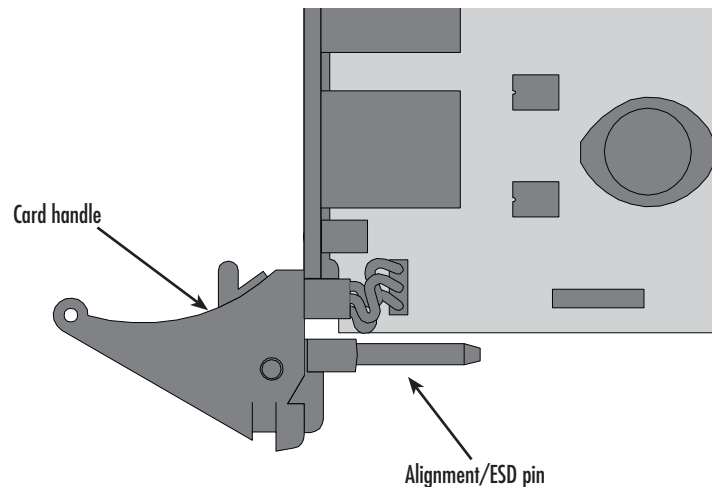

Figure 5. Alignment/ESD pin and card handle
3. Gently press the blade into the chassis until the alignment/ESD pin (see figure 5) engages the chassis. When the blade is fully seated, the red buttons in the handles click up automatically, thus locking the handle and activating the switch (closed position). The click of the button gives a visual and audible confirmation that the board is fully seated.
The 10/100Base-T Ethernet port (see figure 5) is designed to connect to an Ethernet switch or hub. The Ethernet RJ-45 pin and signal definitions for the T-DAC or for a NIC card in a workstation/PC are shown in figure 7 on page 28. Connect a straight-through CAT-5 cable (one wired as shown in figure 7) between the T-DAC and the hub/switch.